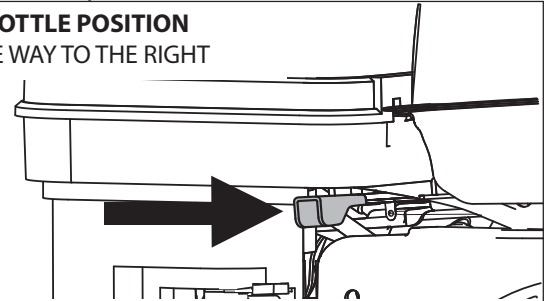

FIGURE 4
1. Move the throttle lever to the **LOW THROTTLE** position and allow the engine to run at low speeds for 1-2 minutes. *(This is not necessary on models with throttle fixed at full throttle position.)* **SEE FIGURE 4**